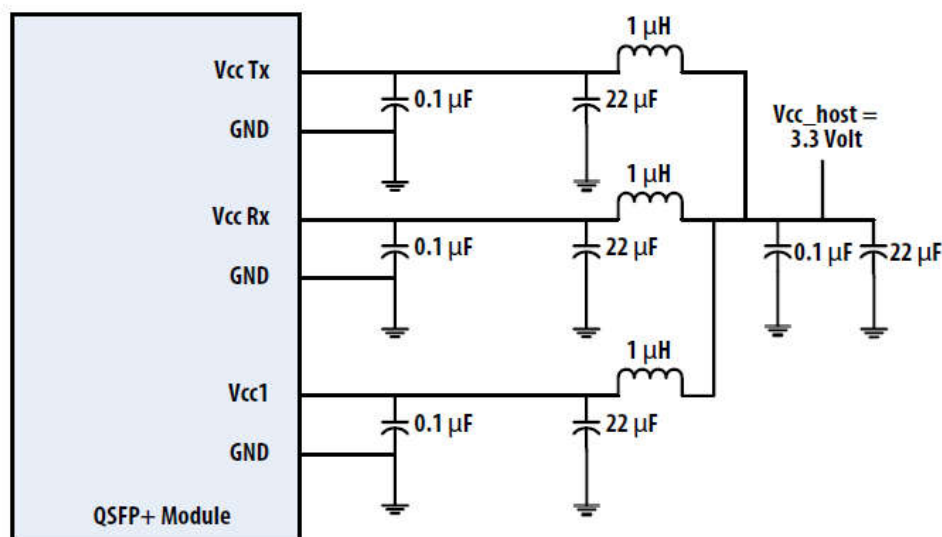

Figure3. Recommended Power Supply Filter
2. VccRx, Vcc1 and VccTx are the receiver and transmitter power suppliers and shall be applied concurrently. Recommended host board power supply filtering is shown in Figure 3 below. Vcc Rx, Vcc1 and VccTx may be internally connected within the QSFP+ transceiver module in any combination. The connector pins are each rated for a maximum current of 500mA.